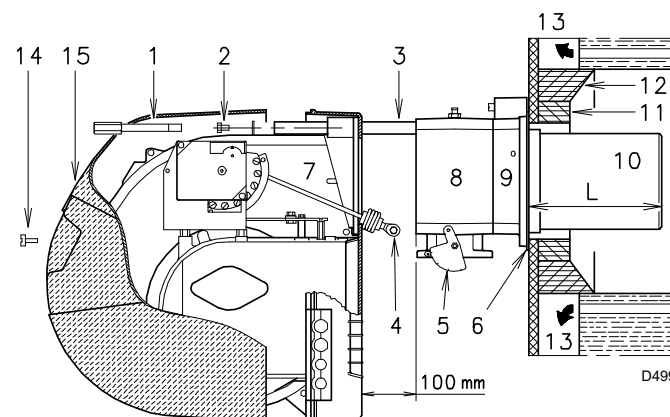

Fig. 10
For boilers with a water-cooled front piece, a refractory lining (13)-(14)(Fig. 10) is not necessary, unless expressly requested by the boiler manufacturer.
- Separate the combustion head from the rest of the burner (Fig. 10):
Fix the flange 9)(Fig. 10) to the plate of the boiler interposing the insulating flange gasket 6)(Fig. 10) supplied with the unit. Use the 4 screws, also supplied with the unit, after first protecting the thread with an anti-locking product.